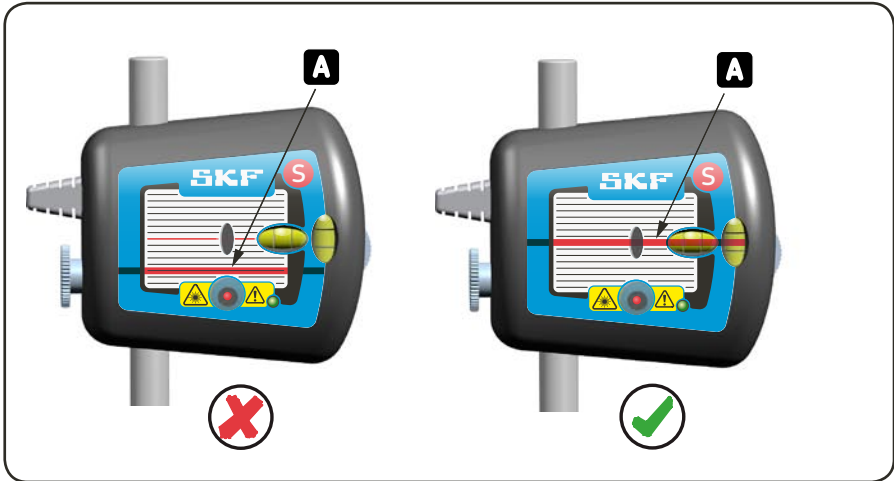

Fig. 11. Hit the target
- b) Aim the laser lines so that they hit in the centre of the target of the opposite measuring unit (fig. 11).